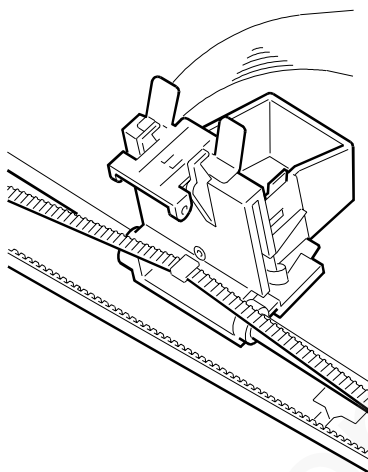

Fig. 7-40
- 6) Remove the carriage from the guide shaft and disconnect the belt from the carriage (Fig. 7-40):